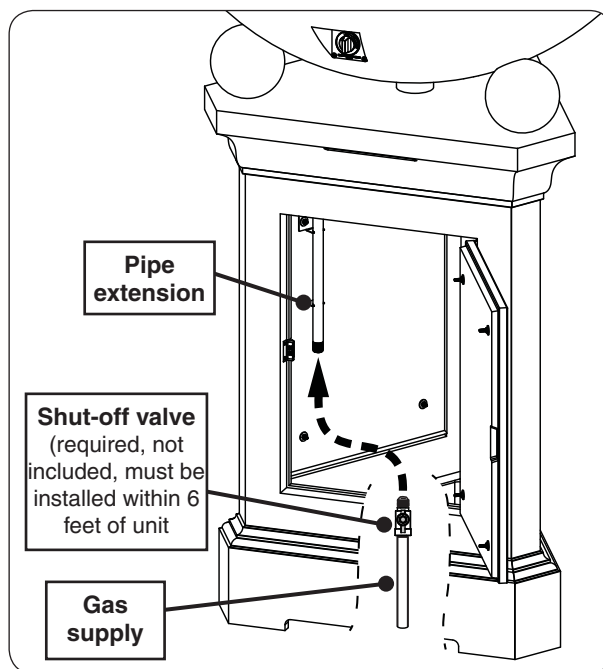

Fig. 30-1 Connecting to a gas line
2. Plumb the gas supply to the $\frac{1}{2}$ " pipe extension (that is mounted to the interior wall of the pedestal). See Fig. 30-1.